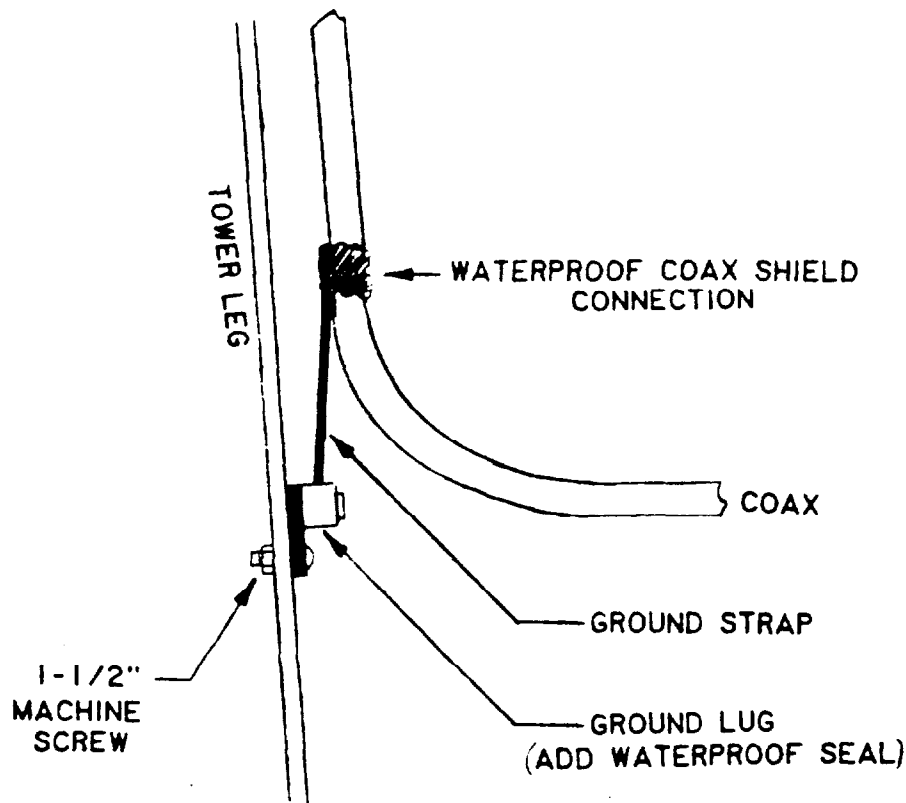

Figure 4
- c. Use plastic electrical tape to over-wrap the entire connection. Also, run this wrap along the cable jacket for 1 inch on each side of connection and wrap down along ground strap to the solder bead, Figures 4 and 5. Keep the tape-wrap snug, and overlap successive turns by about one-half. Wrap with at least two full layers of tape.
9. The grounding procedure for an angle-iron tower is accomplished by drilling a hole in the tower leg and connecting a lug to the tower. Locate the correct ground point on the tower. This point should be so that the ground strap is nearly vertical and as short as possible. Then drill a 1/4 inch hole through structure for mounting the ground lug (see Figure 4).